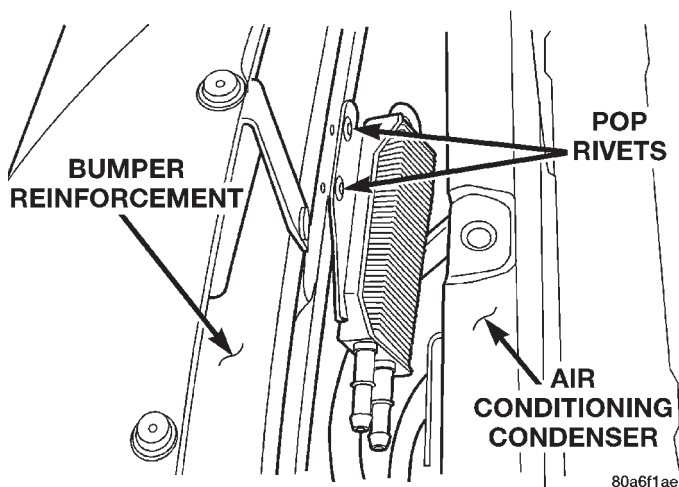

Fig. 22 Power Steering Fluid Cooler Attachment
(4) Using an appropriate grinder and cutter, remove the heads off the 2 pop rivets (Fig. 22) attaching the power steering fluid cooler to the bumper reinforcement (Fig. 22).